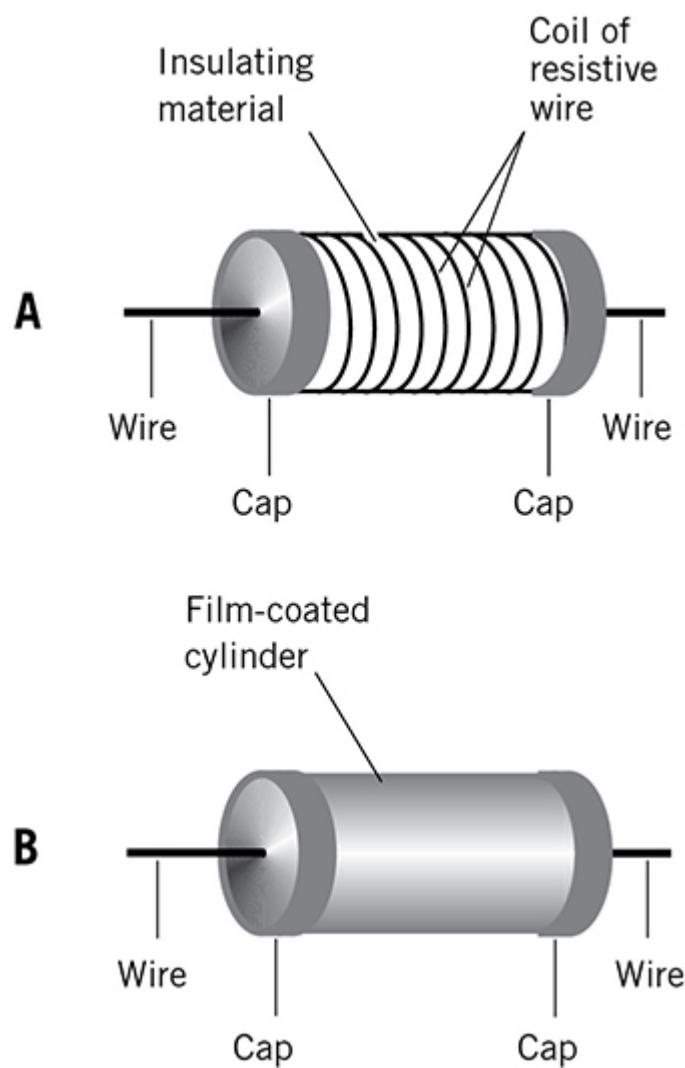

FIG. 3-3 Pictorials showing the anatomy of a wirewound resistor (A) and a film type resistor (B).
Figure 3-2 shows a “transparent” pictorial of a *carbon-composition* fixed resistor with wire leads on both ends. Figure 3-3 shows pictorials of two other types of resistors: *wirewound* (A) and *film* (B). You can denote any resistor of the sort shown in Fig. 3-2 or Fig. 3-3 with either of the symbols in Fig. 3-1.